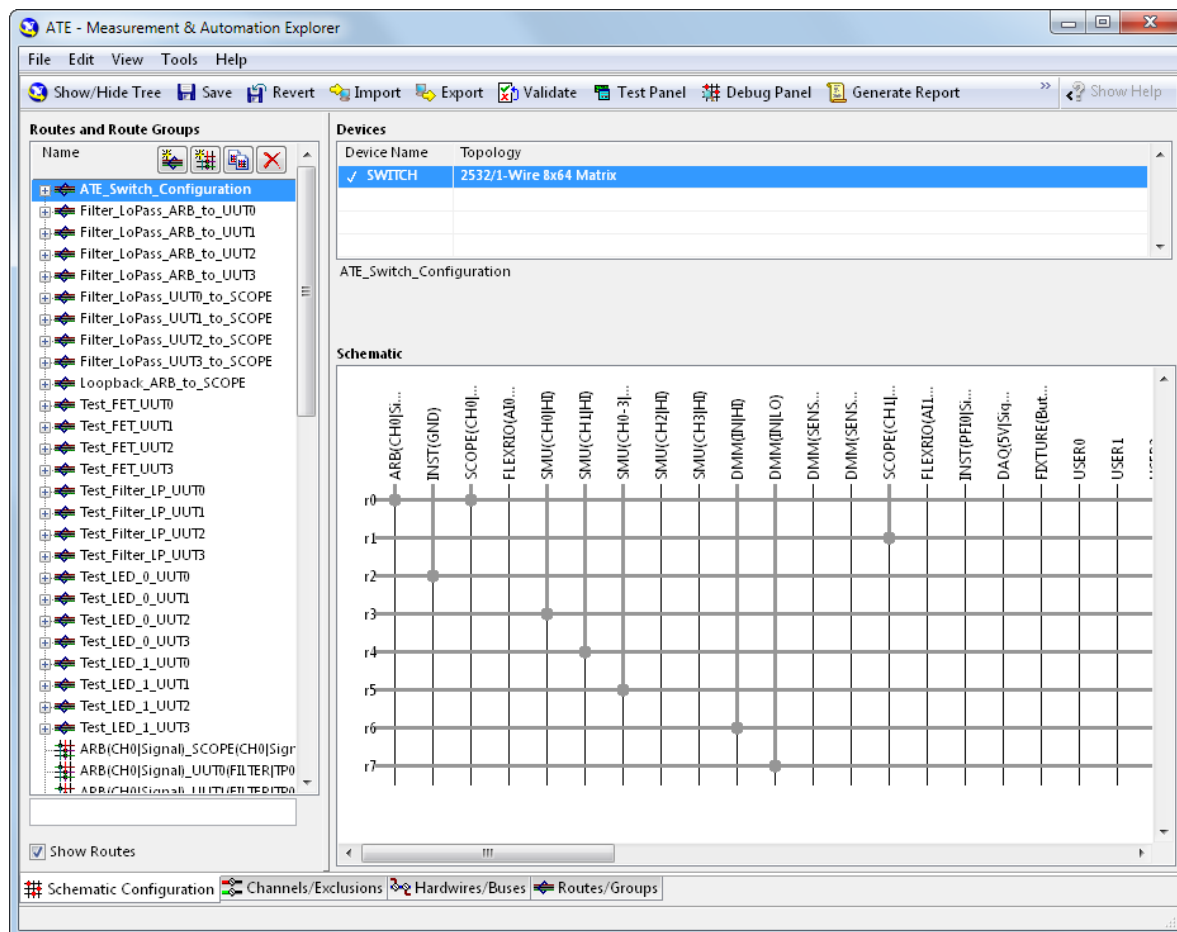

Figure 1-2. NI Switch Executive
3. In the **Routes and Route Groups** pane, select **ATE_Switch_Configuration**. As shown in the Schematic pane Figure 1-2, this route group contains all of the necessary switch connections (routes) for the LED, Filter, and FET tests (the HSDIO lines are directly run to each UUT and are not run through the switch):